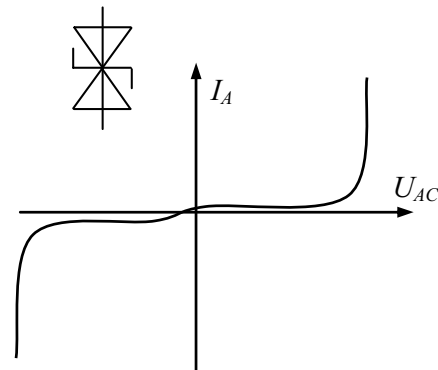

Fig. 1.13
**Bi-directional breakdown diode.** Lightning, power-line faults, etc. can pollute the line voltage by superimposing dips, spikes, and other transients on the normal voltage. *Dips* are severe voltage drops lasting microseconds or less. *Spikes* are short overvoltages of 500 or more than 2000 V. One of the devices used for line filtering is a set of two reverse-parallel-connected Zener diodes with a high breakdown voltage in both directions known as a *transient suppressor* or *voltage suppressor* (Fig. 1.13). It contains a pair of Zener diodes that are connected back-to-back, making the voltage suppressor bi-directional. This characteristic enables it to operate in either direction to monitor under-voltage dips and over-voltage spikes of the ac input. It is used as a filtering device to protect voltage-sensitive electronic devices from high-energy voltage transients. The voltage suppressor is connected across a primary winding of transformers to clip voltage dips and spikes and protect the equipment. The voltage suppressor must have extremely high power dissipation ratings because most of surges in ac power line contain a relatively high amount of power, in the hundreds of watts or higher. It must also be able to turn on rapidly to prevent damage to the power supply. In dc applications, a single unidirectional voltage suppressor can be used instead of a bi-directional voltage suppressor. It is shunt-connected with the dc input and reverse biased (cathode to positive dc). Often, a *varistor* (nonlinear *voltage-dependent resistor*) is used instead of the breakdown diode.